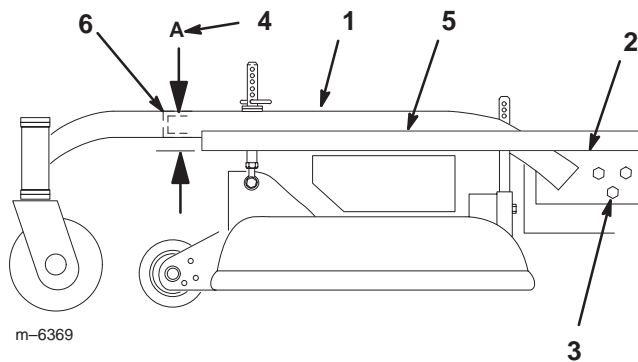

Figure 46
- Place a long straight edge on top of the engine deck as shown in figure 46.
- At the carrier frame cross tube, measure location **A** height (Fig. 46). This measurement must be 1-5/16 inch (33 mm), plus or minus a 1/4 inch (6 mm).
- Loosen the carrier frame mounting bolts on both sides of the machine (Fig. 46).
- Align the carrier frame and engine deck to match 1-5/16 inch (33 mm), plus or minus a 1/4 inch (6 mm) at location **A** (Fig. 46).